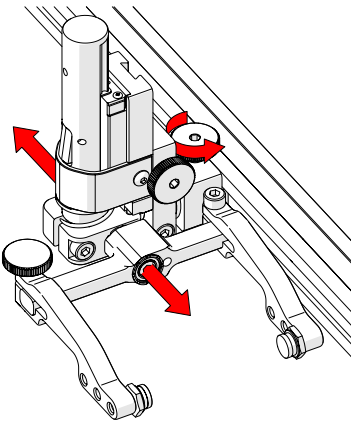

Fig. 103 - Adjust on frame bar
1. The probe holder adjustment knob allows the probe holder to be attached to a frame bar and adjusts horizontal positioning (*Fig. 103*).